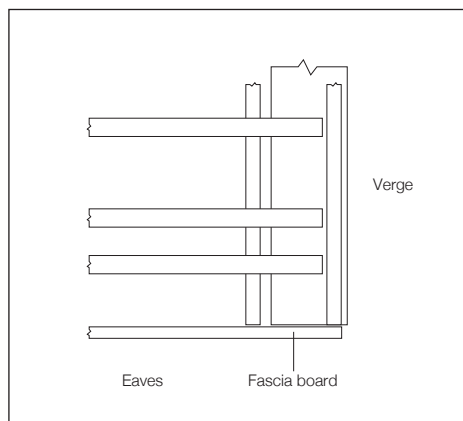

Fig. 1 – Batten configuration at eaves
- 2 Set out both under-eaves battens to accommodate the under-eaves slate lengths, similar to those shown in the table, page 93 and Fig. 1, but following the correct laps and gauges.